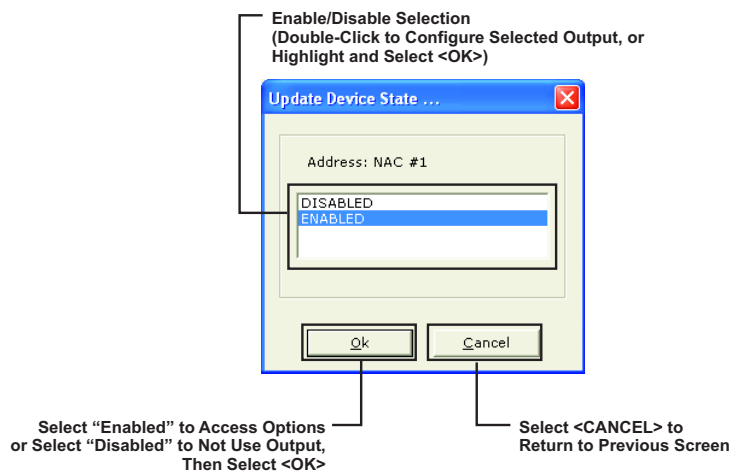

Figure 2-28. Access Options Screen for Control Unit-Based Outputs
2. Select the circuit by double-clicking on the circuit name in the type column. Figure 2-28 displays.